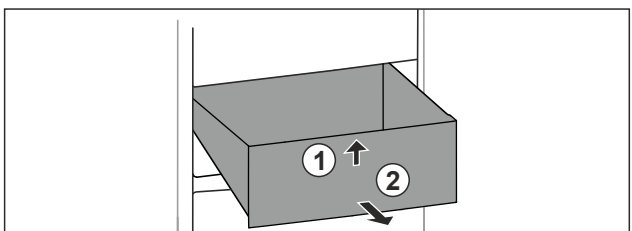

Fig. 68
- ▶ Lift up drawer at the front. Fig. 68 (1).
- ▶ Remove drawer to the front. Fig. 68 (2).